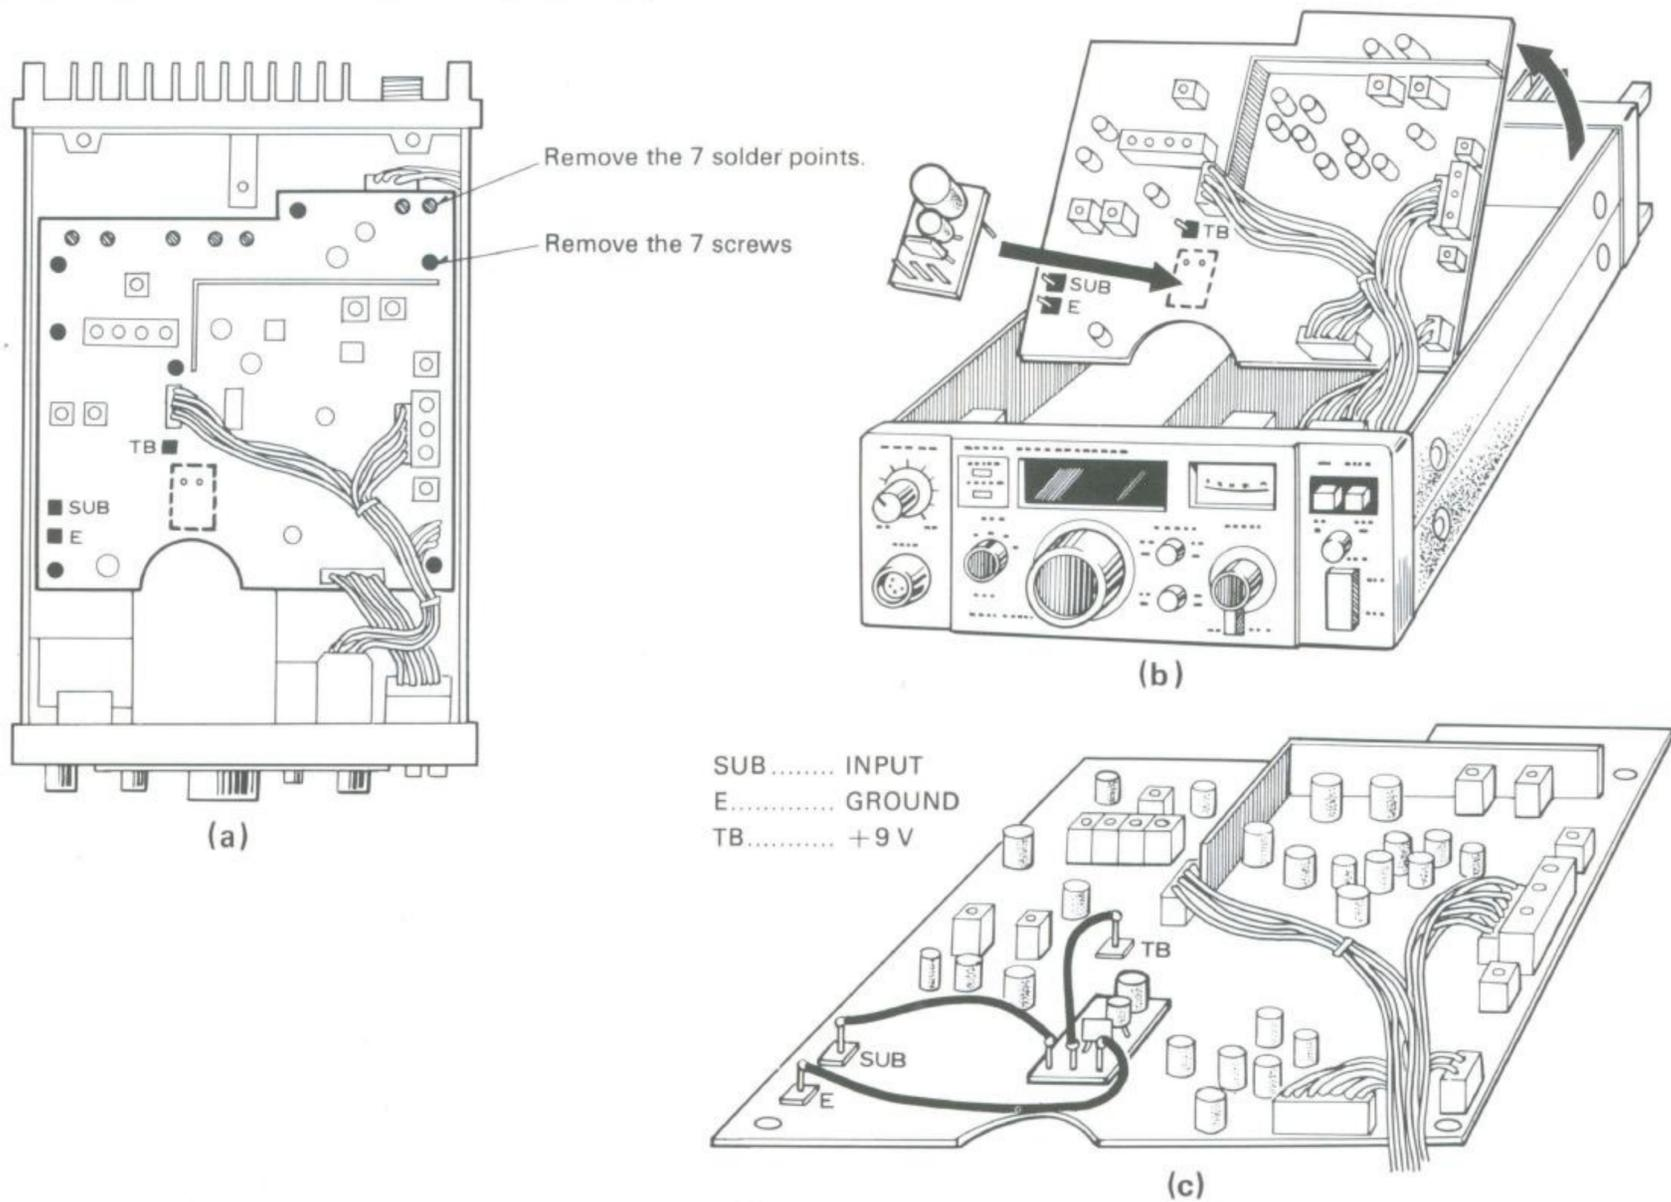

Fig. 4-1
Your TR-7625 (or TR-7600) has a SUBTONE switch prewired for use with a tone encoder. To install, refer to Fig. 4-1.
2. Remove the 7 solder points as shown in Fig. 4-1 (a).
3. Install the tone unit on the printed circuit board and solder the ground pin from the foil side. See Fig. 4-1 (b).
4. Solder the leads as illustrated in Fig. 4-1 (c).